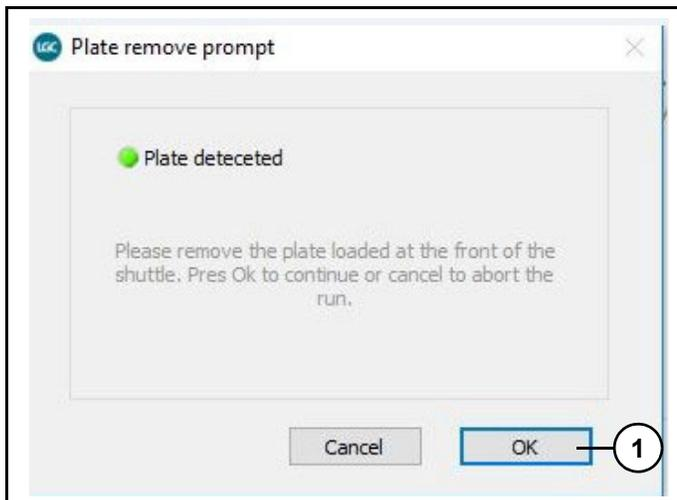

Figure 37
26. Click "OK" (1). (Figure 37).